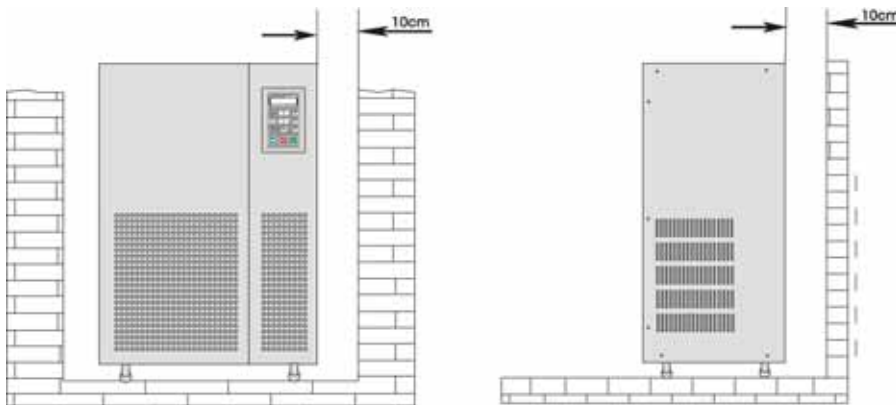

Figure 4
2. Please place the UPS in the place where keeps good ventilation, UPS's back face and side face should be more than 10cm away from the room wall. (Figure 4)
4. Verify the installation place again. (Figure 4 to 10)